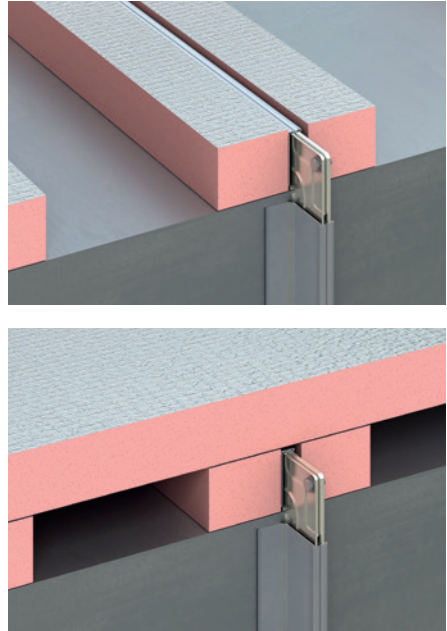

Figure 31: Insulation on top of the “noggins”
- An alternative method shown in Figure 31, which is used in the industry is that the insulation is installed by levelling all insulation with the flanges, in order to achieve a uniform appearance; this can be obtained as follows: